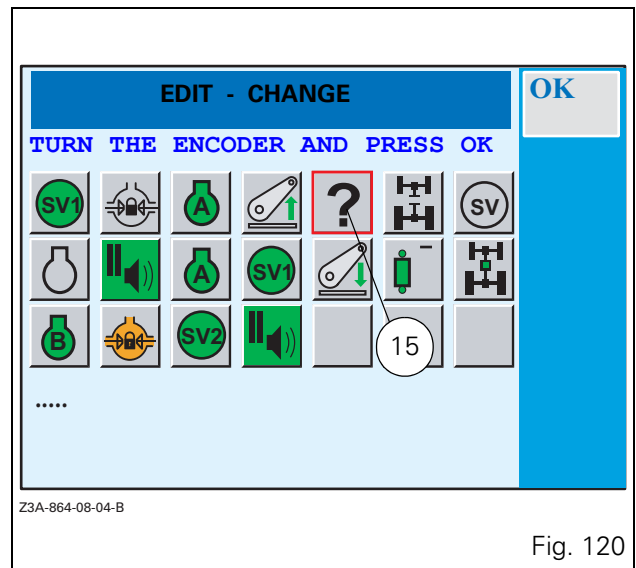

Fig. 120
- Validate either by pressing the encoder, or by pressing key $\ll_1$. The icon to modify is replaced by a question mark (15 Fig. 120).